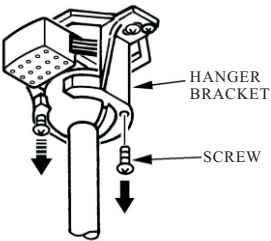

FIG.9
- 3.Remove one of screws and loosen the other screw from the hanger bracket. (See fig.9)